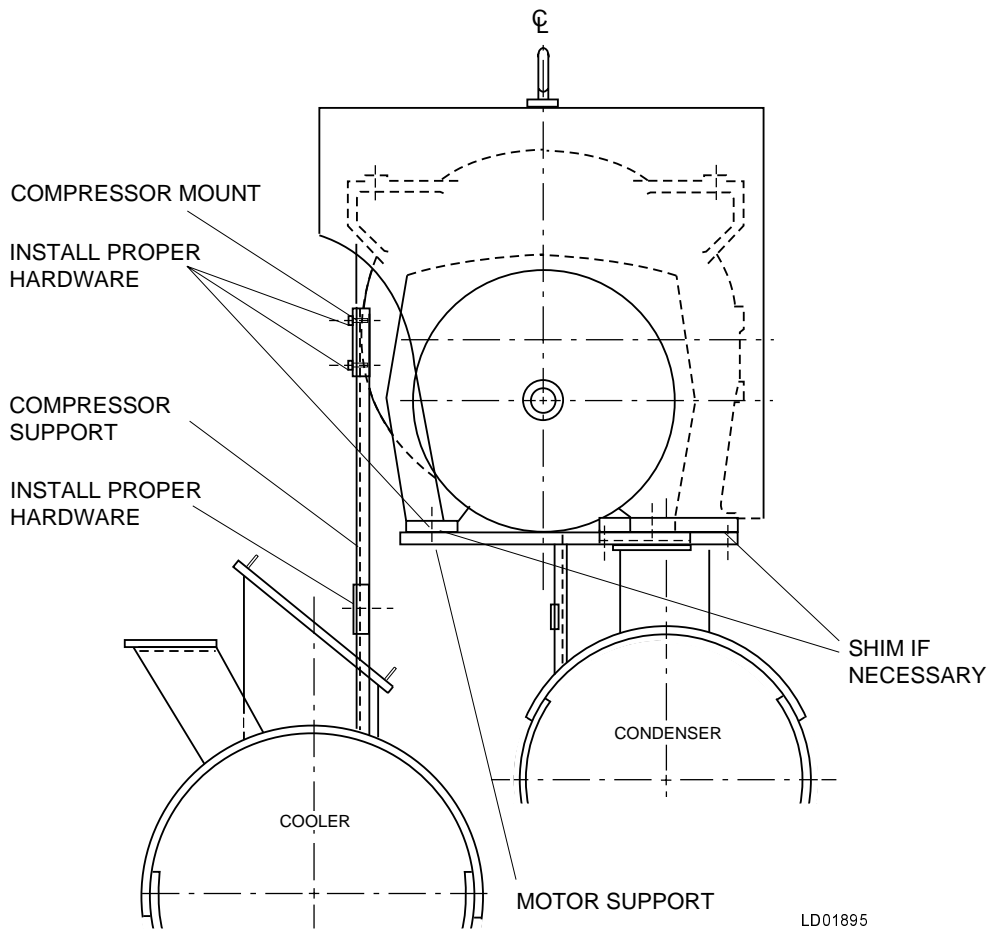

FIG. 6 – MOUNTING COMPRESSOR / MOTOR (B & C COMPRESSOR UNITS)
7. Carefully lower the compressor-motor assembly over the shell, keeping it level in both directions using the bottom of the compressor discharge flange. When level, lower on to flanged shell connection and motor support. Insert cap screws and tighten nuts snugly. (See Figs. 6, 7, or 8)